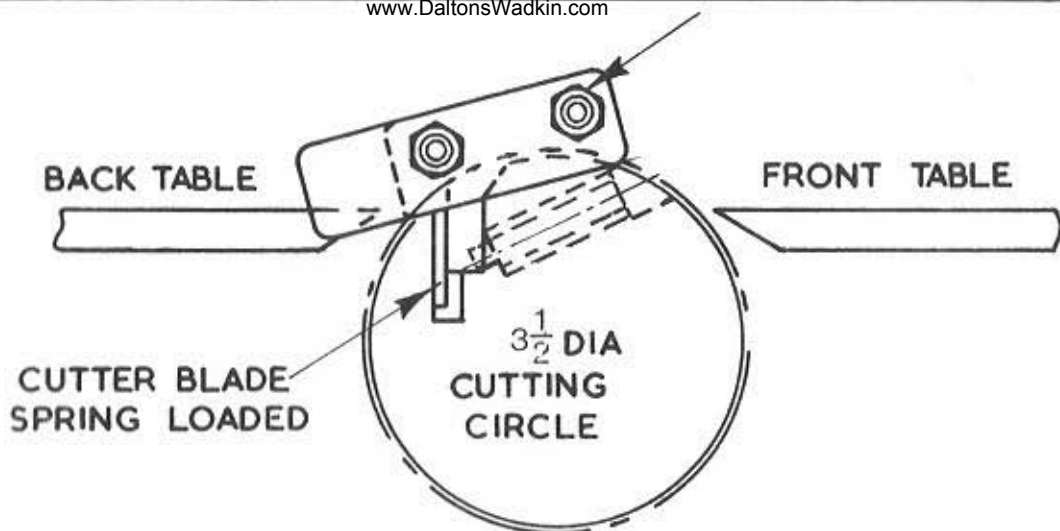

Fig 5
2. Turn the cutterblock to approximately the position shown in Fig. 5 and slacken the securing screws until the knife is just free of the cutterblock. Care should be taken when loosening the last screw as the knives are spring loaded.
3. To re-set the knives, the cutterblock should be in approximately the position shown in Fig. 5. Place the knife in the slot making sure that all faces are clean and the clamping bar free from burrs.
Press the knife into the cutterblock with the setting device in Fig. 5 until the four predominant pads rest on the outer surface of the cutterblock and the end stop plate is pressed against the rebate side of the back planing table. Position the knife so that its end butts against the stop plate so as to line up the tip of the knife with the edge of the back table.